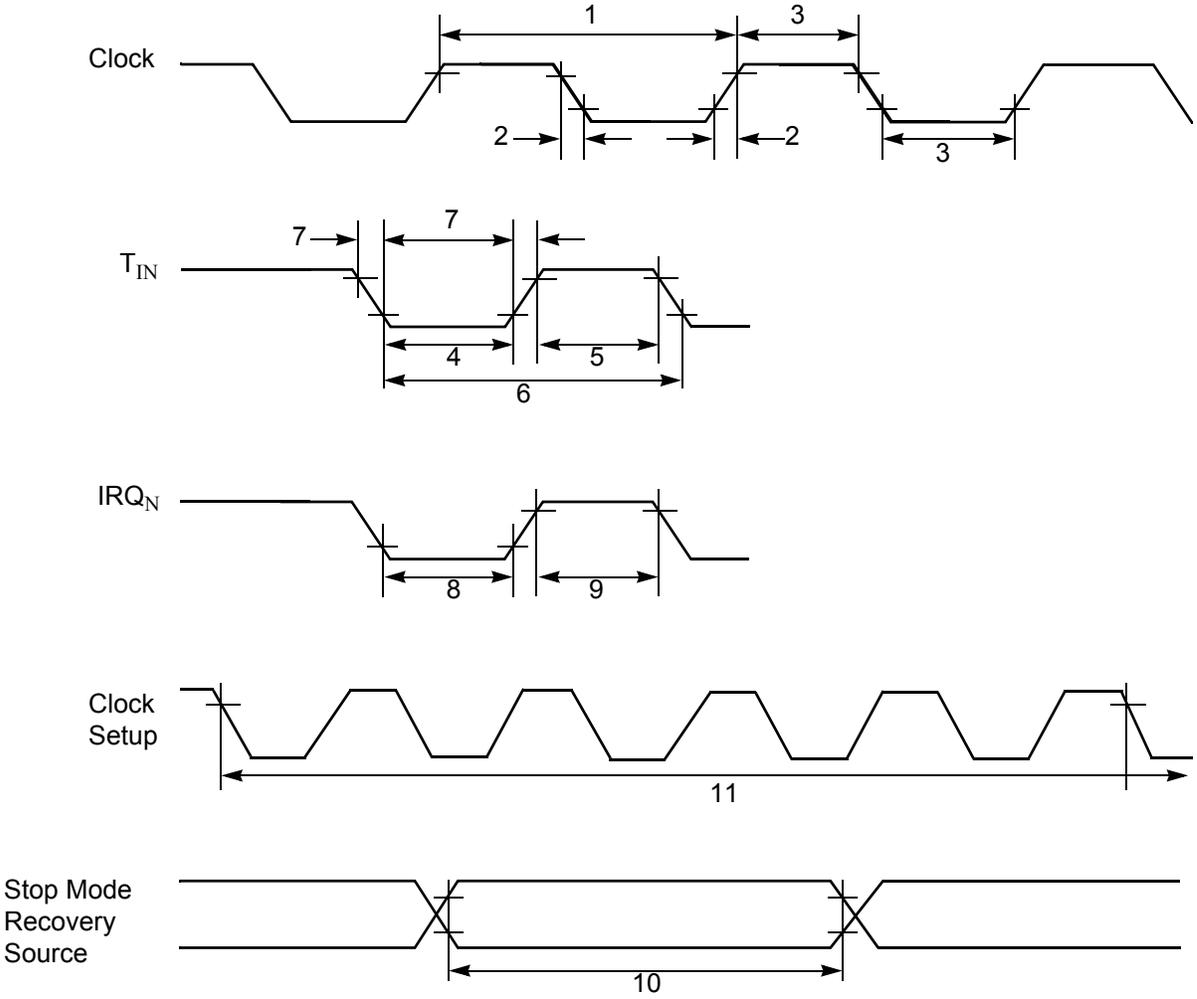

Figure 54. AC Timing Diagram
Figure 54 and Table 21 describe the alternating current (AC) characteristics.